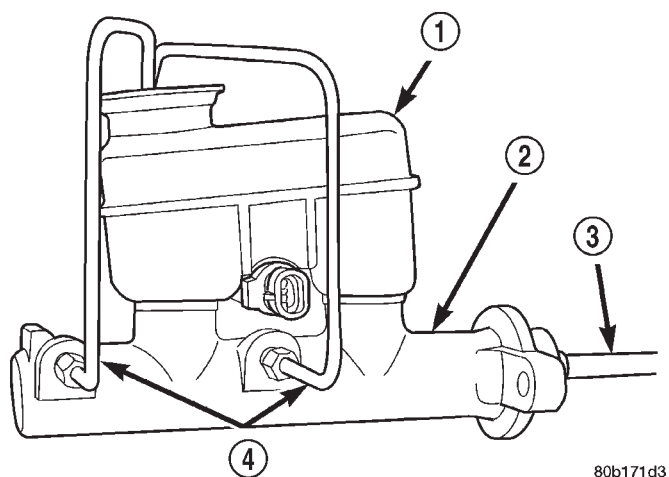

Fig. 58 Bleeding Master Cylinder
(2) Fill brake fluid reservoir with brake fluid conforming to DOT 3 specifications such as Mopar or an Equivalent.
(3) Insert an appropriate size wooden dowel in the end of the master cylinder piston (Fig. 58). Using the dowel, slowly depress the piston to the full extent of its travel and then allow the piston to return to its released position. Continue to repeat this step until bubbles no longer appear in the brake fluid. After no more air bubbles are expelled from the bleed tubes repeat the above procedure several more times to ensure all air is bled from master cylinder.